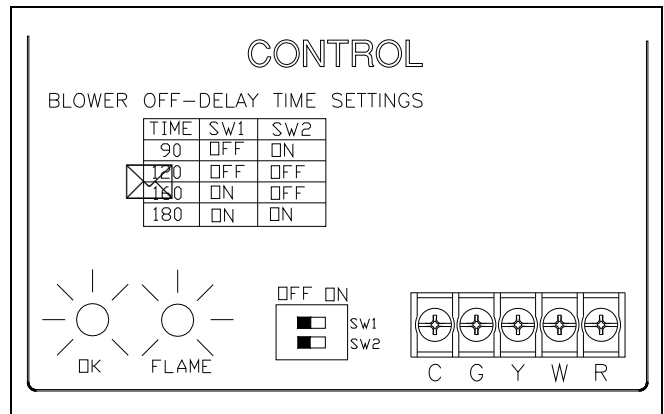

Figure 32. Heating Blower Off-Delay.
2. Determine switch settings for desired heating blower off-delay. See Figure 32.